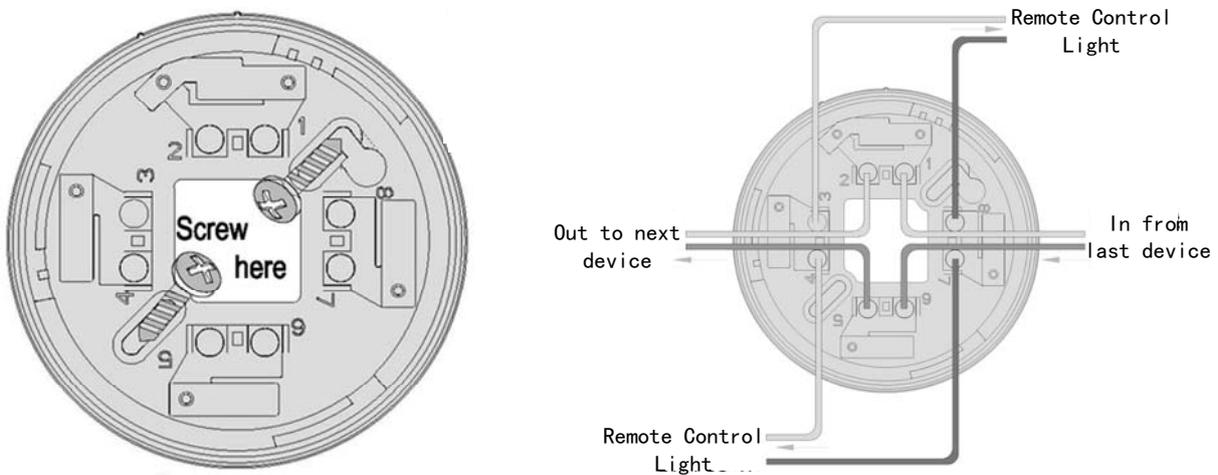

Fig.1 TX7980 base structure and the terminals connection diagram
1. Install the TX7980-type base in the position where the Addressable/Conventional Sounder Base will be installed. Following the arrow mark for the correct position. Do not over-tighten the screws otherwise the base will twist. Use M4 standard screws. Terminals 1 and 6 are the bus signal inputs for connection to the last device. Terminals 2 and 5 are the bus signal outputs for connection to the next device. Terminals 3&8 or 4&7 are used to connect remote indicators. TX7980-type base structure and the terminals connection diagram as shown in Figure 1.